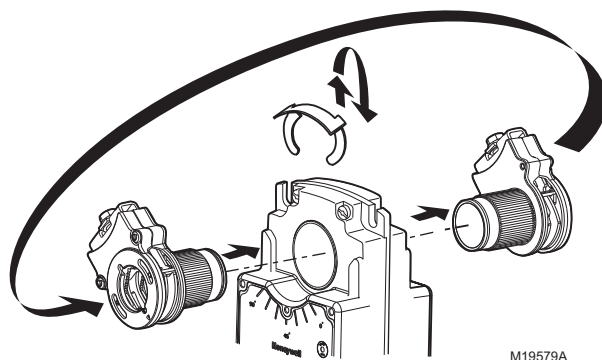

Fig. 31. Mounting shaft coupling to actuator opposite side.
- (1) MS7505 actuators reposition control signal selection switch; MS7103 actuators 2-10 Vdc only (reversal not possible), or
- (2) To change spring return direction: remove, flip over, and replace actuator on the bracket.
- d. Move the actuator coupling to the opposite side of the actuator, as displayed in Fig. 31.
- (1) Remove the retainer clip from the shaft coupling and set it aside for later use.
- (2) Remove shaft coupling from one side of the actuator.
- (3) Replace the shaft coupling on the opposite side of the actuator, aligning it based on the stroke labelling.
- (4) Replace the retainer clip on the shaft coupling using the groove of the coupling.